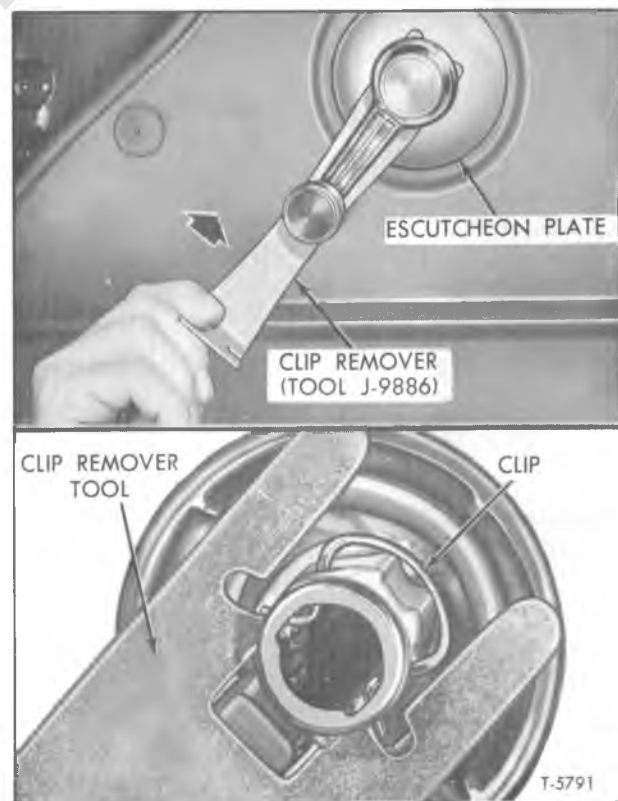

Figure 15—Disengaging Door Inside Handle
**REMOVAL (Fig. 15)**
NOTE: The lower view in figure 15 shows how